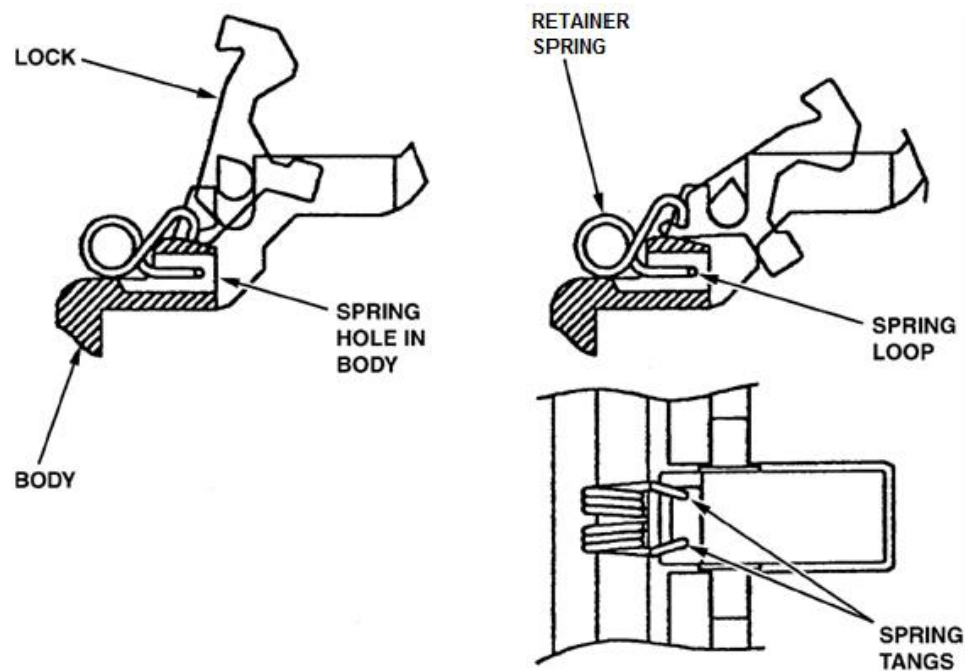

Figure 2. Installing the Springs and the Locks
B. Coupler Section Assembly (See IPL Figure 2)
1. If bushing (19) was removed, thread a new bushing onto the 3/8-16UNC, 6.5 inch long bolt used to remove the old bushing. Thread the bushing onto the bolt until it is flush with the end of the bolt. Press the bushing into the bushing bore of the body (30), until it bottoms out.
2. If guard (26) was removed from shroud (25), use tire levers to install a new guard (26) on the shroud (25).
3. See Figure 2 and install spring retainers (28) and locks (29) in the body (30) as follows:
10. Drive pin (IPL Figure 2, 12) into pin bore of body (30) to secure assemble handle/shaft (13 thru 18).
11. Put the two washers (10), assembled sleeve (6 thru 9) and poppet (5) in the body (30).
12. Rotate handle (14) to its CLOSED position. Orient the bow of the links (24) on the poppet opposite to the handle (14).
13. Align the hole in crank (23) and install pin (11).
14. Rotate handle 45° approximately towards its OPEN position and install clevis pin (22), washer (21) and cotter pin (20).
15. Rotate handle (14) to its CLOSED position, slide shroud (25) up to handle (14) until the locks (29) engage.